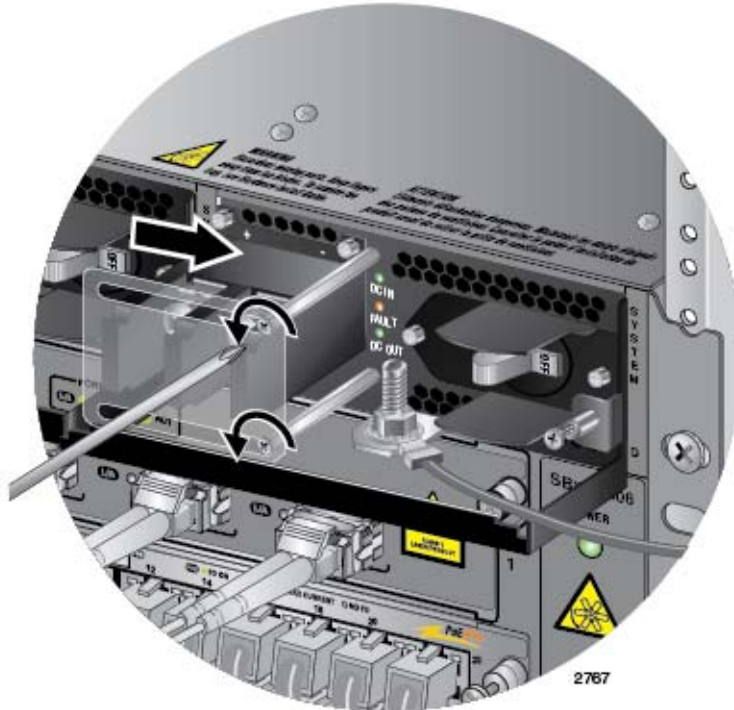

Figure 125. Opening the Plastic Cover
4. Use a #1 Phillips-head screwdriver to loosen the two screws on the plastic cover over the positive and negative terminals on the power supply and slide the cover to the right, as shown in Figure 125 on page 184. You may need to lift the locking handle slightly to access the bottom screw.
3. Use a #1 Phillips-head screwdriver to loosen the two screws on the plastic cover over the positive and negative terminals on the power supply and slide the cover to the right, as shown in Figure 125 on page 184. You may need to lift the locking handle slightly to access the bottom screw.